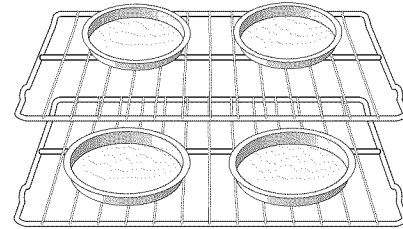

Figure 17: Baking on multiple levels
- When baking using two oven racks, position bakeware as shown in Figure 17. Allow at least 2 inches (5 cm) of space between bakeware for proper air circulation.
- For best results when baking cakes or cookies using two oven racks, place pans as shown in Figure 17.